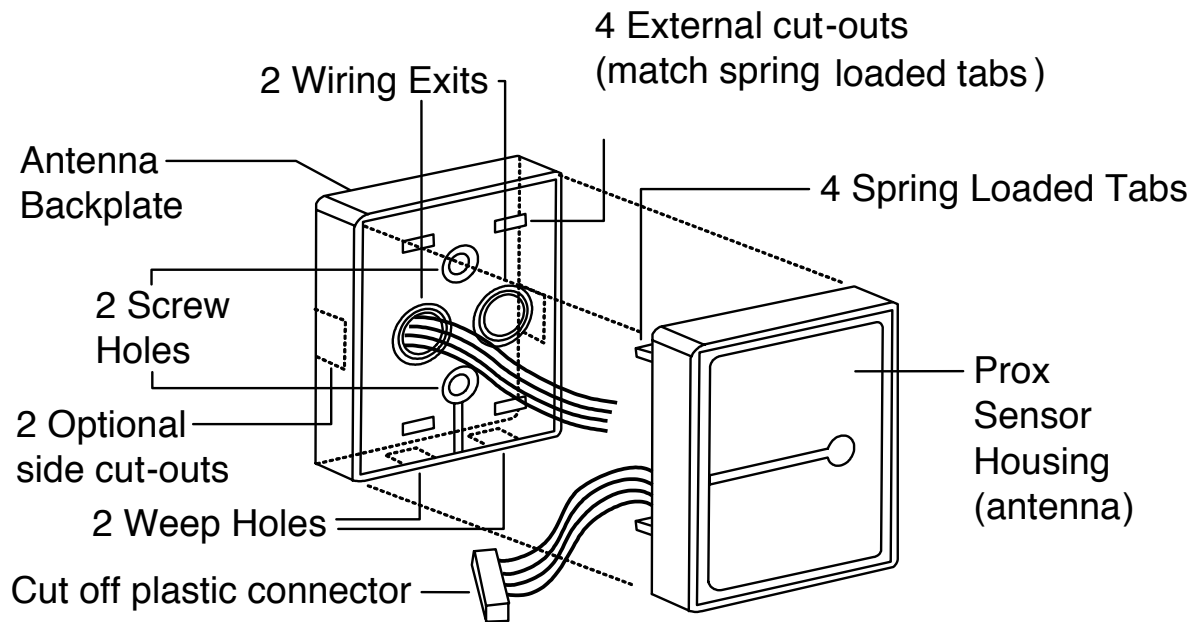

Figure 7 Remote Installation of Prox Antenna
- Cut off the plastic connector of the WM800 sensor housing harness (Figure 7).
4. Mount the antenna backplate in a vertical orientation (Figure 7) and secure it to the wall through the two screw holes using the two screws provided. Ensure that the two weep holes, provided to remove possible moisture, are positioned on the bottom. The wiring exits in the antenna backplate. (Four external cut-outs on the antenna backplate match the four spring-loaded tabs on the antenna.)